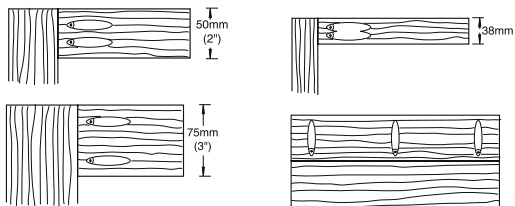

Fig. 7
- Drilling the pocket holes - **(Fig. 7)**